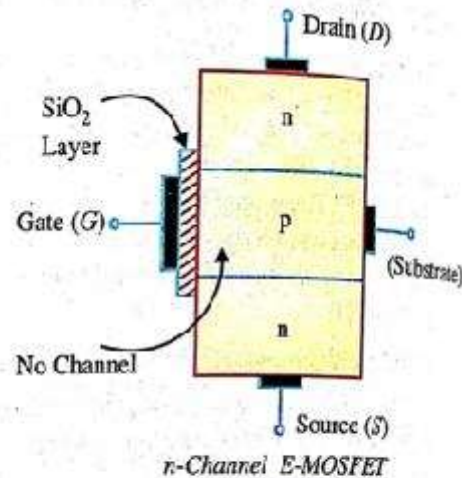

Fig. 19.44
2. E-MOSFET. Fig. 19.44 shows the constructional details of *n*-channel *E*-MOSFET. Its gate construction is similar to that of *D*-MOSFET. The *E*-MOSFET has no channel between source and drain unlike the *D*-MOSFET. Note that the substrate extends completely to the SiO₂ layer so that no channel exists. The *E*-MOSFET requires a proper gate voltage to *form* a channel (called induced channel). It is reminded that *E*-MOSFET can be operated *only* in enhancement mode. In short, the construction of *E*-MOSFET is quite similar to that of the *D*-MOSFET except for the absence of a channel between the drain and source terminals.